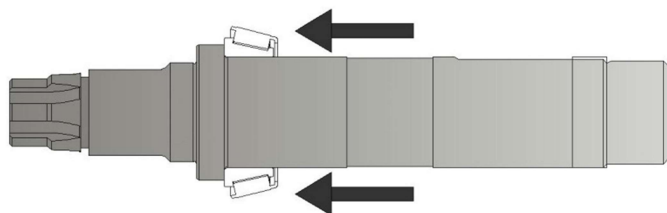

Figure 34 - Inner-ring fitment
- **USE GLOVES:** Heat only inner races of front bearings (5) and assemble onto the shafts (24 & 25) making sure they are square and pressed tight against the shaft shoulder, ensure bearings are in the correct orientation. (Figure 34)